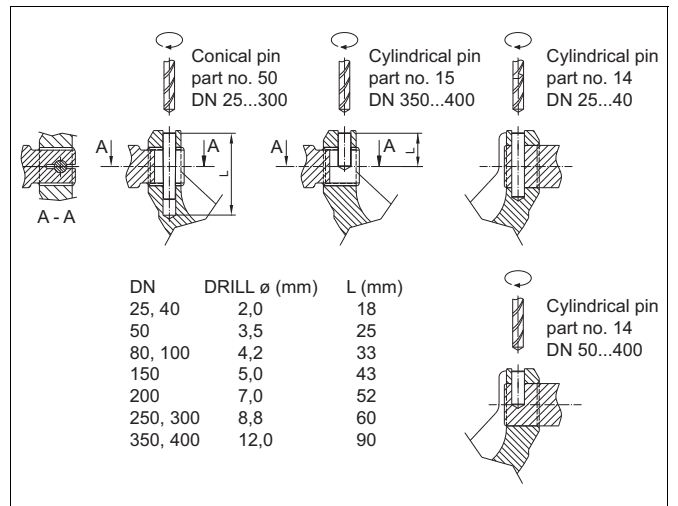
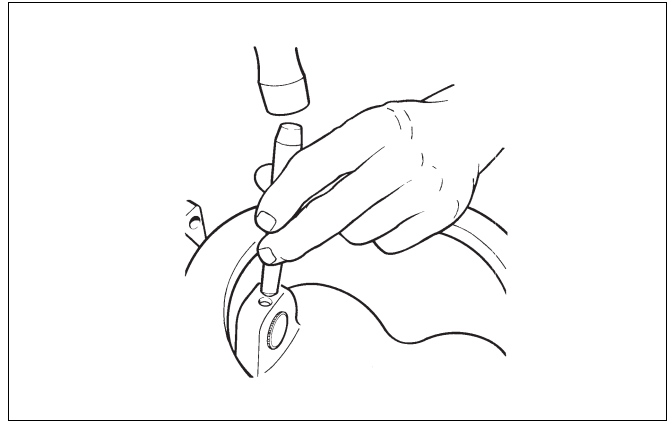

Fig. 23 Drilling the pin, R1L and R2\_S
Fig. 26 Locking a pin
- ❑ Remove the pin lockings either by grinding or using a spindle. Detach the pins (14 and 15) by drilling, Fig. 23. Be careful not to damage the original bores. Note! The pins and the drive shaft have been secured by welding in the titanium version and in the acid-resistant high-consistency version S.
- ❑ Please note the depth of the hole (L) for the conical pin (Fig. 23). Put the pins (14, 50) in their places and lock them (Fig. 26). Both pins are locked with TIG welding in the high-consistency acid-resistant version and in the standard and high-consistency titanium versions. Moreover, the drive shaft is welded to the segment in the high-consistency versions. Contact the manufacturer for more information.